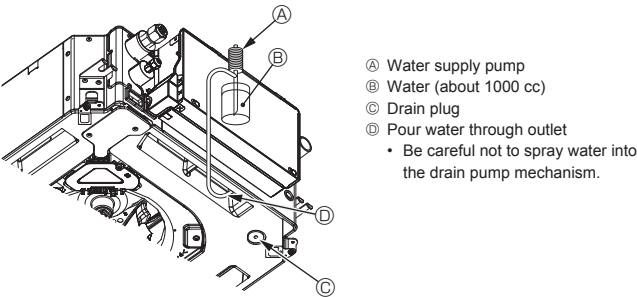

Fig. 8-6
8.4. Check of drainage (Fig. 8-6)